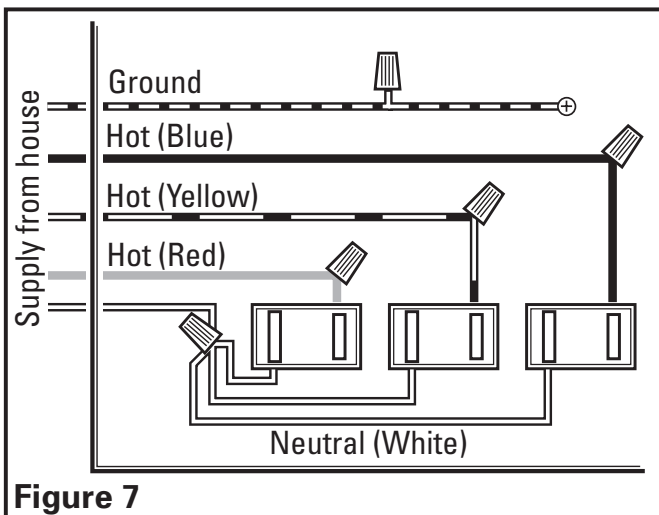

Figure 7
2. Connect the White wire from the house to the three White wires from the fan. Connect one Hot (Blue) wire from the wall switch to the Blue wire from the fan (this is the fan control). Connect second Hot (Red) wire from the wall switch to the Red wire from the fan (this is the heat control). Connect the third Hot (Yellow) wire from the wall switch to the Yellow wire from the fan (this is the light control). Connect the ground wire from the house to the Green wire from the fan (Figure 7). Use approved methods for all connections.